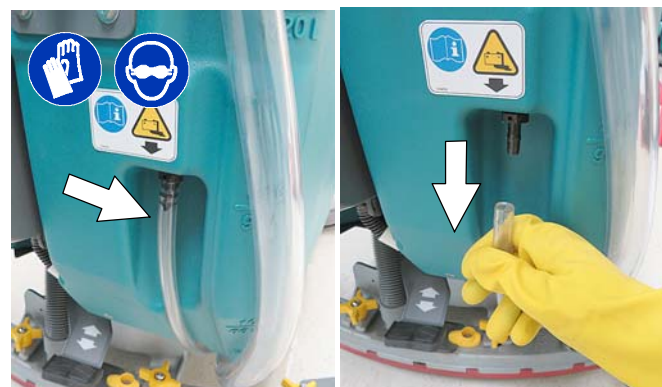

FIG. 145
2. Pull the battery compartment drain hose from hose holder and carefully drain liquid from battery compartment (Figure 145).